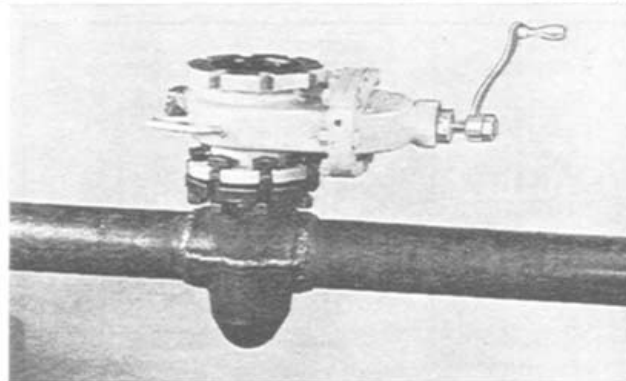

FIGURE 5
- a. When using a 4" H-17250, 4" H-17254, 4" H-17255, 4" H-17260, 4" H-17265, 3" H-17268, 4" H-17266 or 4" H-17270 fitting, bolt the gate valve to the fitting. Figure 5. Check to be sure the gasket is in good condition and in place.